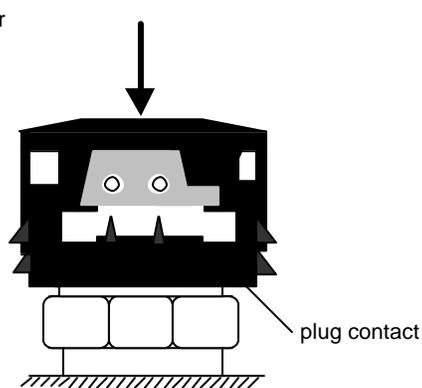

Fig. 2
5. Press the front cover of the AS-Interface connector downwards into the socket until the first mechanical locking stop engages (Fig. 2).